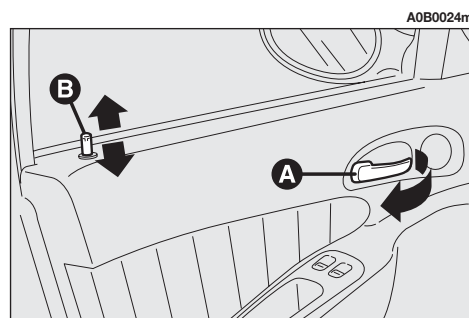

fig. 16
– To open the door pull the handle (**A**-fig. 16) regardless of the position of knob (**B**).
– **From inside:** when the doors are closed, press one of the knobs (**B**-fig. 16) located on the front doors, engage/release the centralized locking system.
**WARNING** For the front doors it is not possible to keep the knob (**B-fig. 16**) down if the door has not been shut properly.